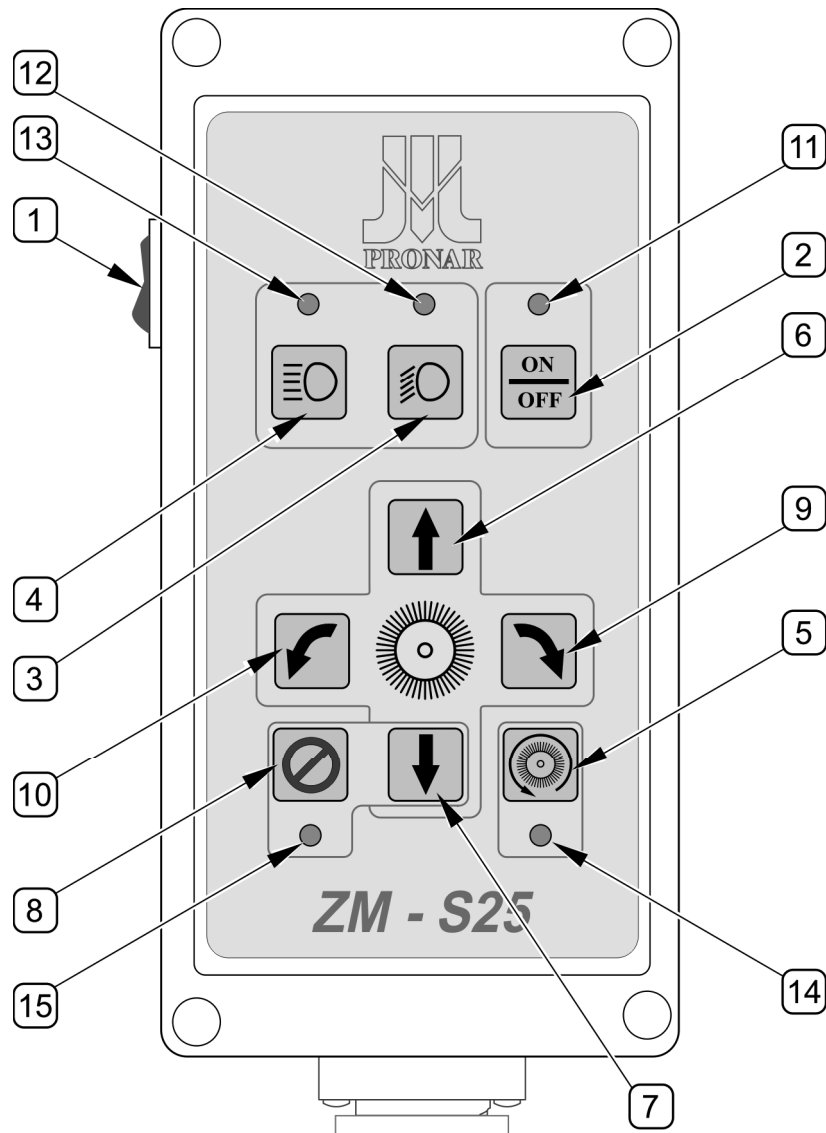

FIG. 4.10 Arrangement of controls on the control panel (ZM-S25)
(1) - main switch of control panel; (2) - ON / OFF button for panel activation i main switch of lights and clearance lights; (3) - dipped beam switch; (4) - high beam switch; (5) - brush drive switch and floating position (6) - brush rising push-button; (7) - brush lowering push-button (works only with the aggregation button); (8) - linking push-button; (9) - push-button of brush turning to the right; (10) - push-button of brush turning to the left; (11) - panel activation light (yellow) and switching on marker lights; (12) - dipped beam ON indicator light; (13) - high beam ON indicator light; (14) - brush drive ON indicator light; (15) - "linking" function indicator light
Control panel (FIG. 4.10) is protected against accidental use by the main switch (1).